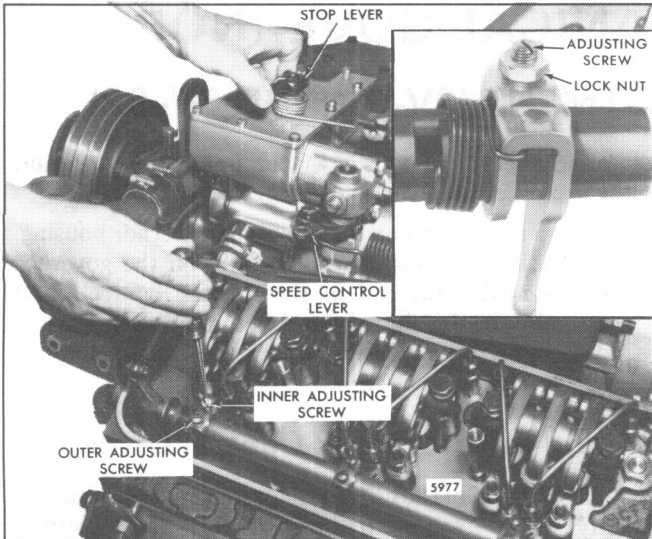

Fig. 2 – Positioning No. 1 Injector Rack Control Lever
4. Move the stop lever to the *run* position and hold it in that position with light finger pressure. Tighten the adjusting screw of the No. 1L injector rack control lever until the injector rack clevis is observed to roll up or an increase in effort to turn the screwdriver is noted (Fig. 2). Tighten the screw approximately 1/8 of a turn more and lock securely with the adjusting screw locknut. This will place the No. 1L injector rack in the *full-fuel* position.